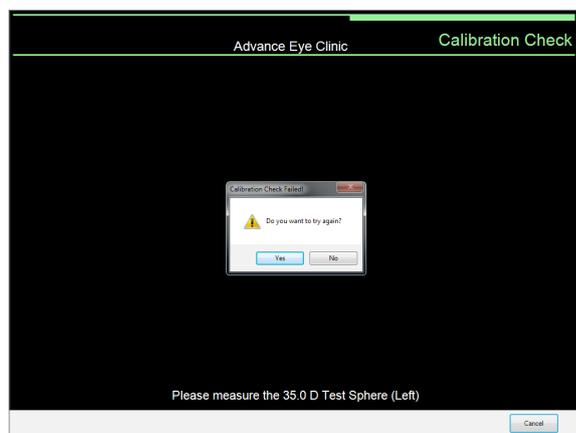

Figure 4
- If the first step fails, clean the front surface of the glass spheres on the **Test Eye** with a soft cloth and repeat the first step (*Figure 4*). Residual dirt or oil may cause failure.